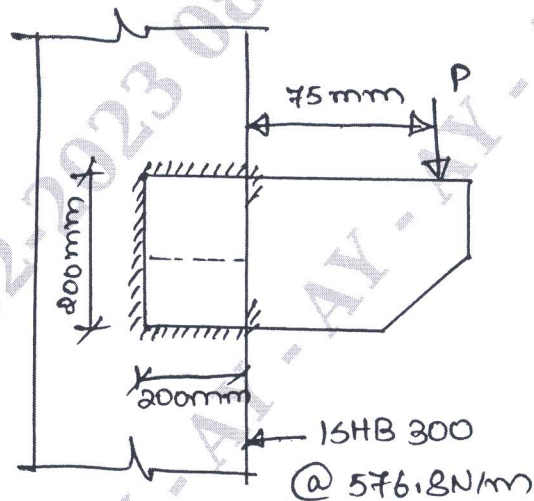

Fig.Q.4(c)
c. A bracket plate is used to transfer the reaction of a beam to a column flange as shown in Fig.Q.4(c). The bracket plate is connected to the column flange by a 6mm fillet weld. Compute the maximum load that can be placed over the bracket plates at a distance of 75mm from the flange of the column section. (10 Marks)